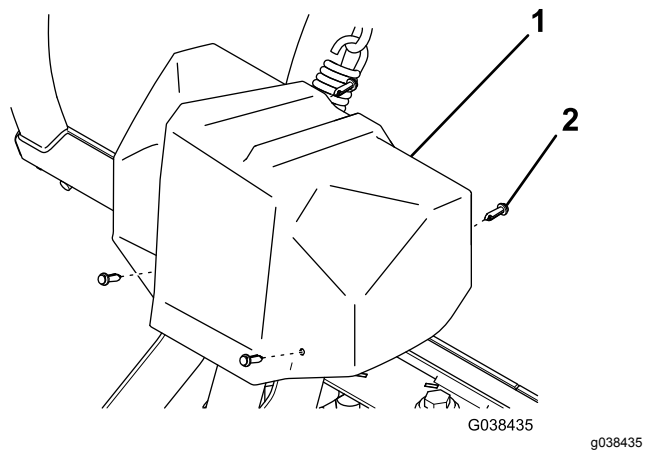

Figure 25
- Remove the 4 plastic rivets securing the coupler cover to the coupler, and remove the cover (Figure 25).